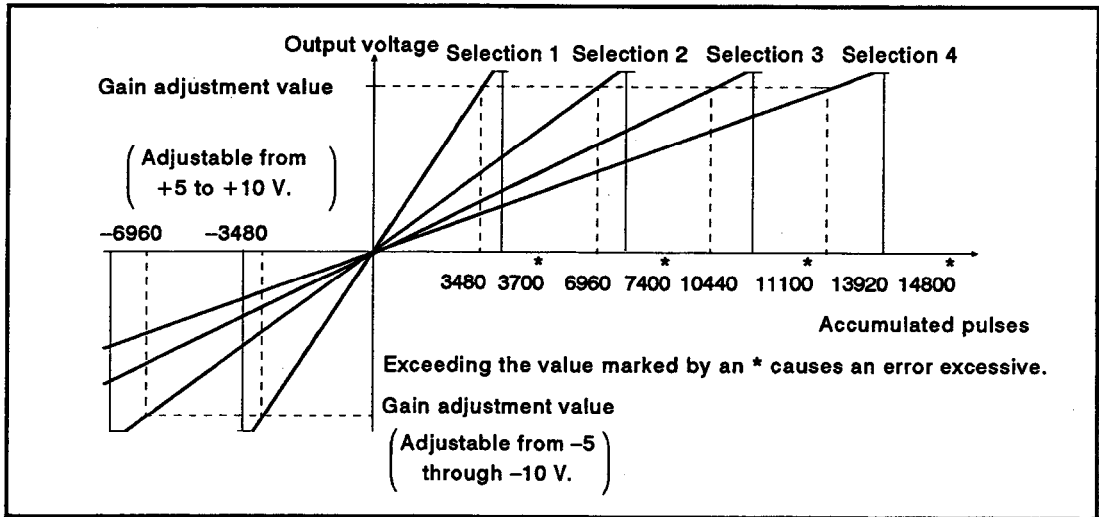

Fig. 4.1 Relationship Between Accumulated Pulses and Analog Voltage Output.
- (3) If any of the following phenomena occurs during positioning after setting of the accumulated pulses, increase the setting range of the accumulated pulses.
(4) As shown in Figure 4.1 below, voltage outputted from the AD70 is controlled by the accumulated pulses.
Fig 4.1 shows the rotation direction setting of slide switches and how to connect the encoder to the AD70 in the above cases.